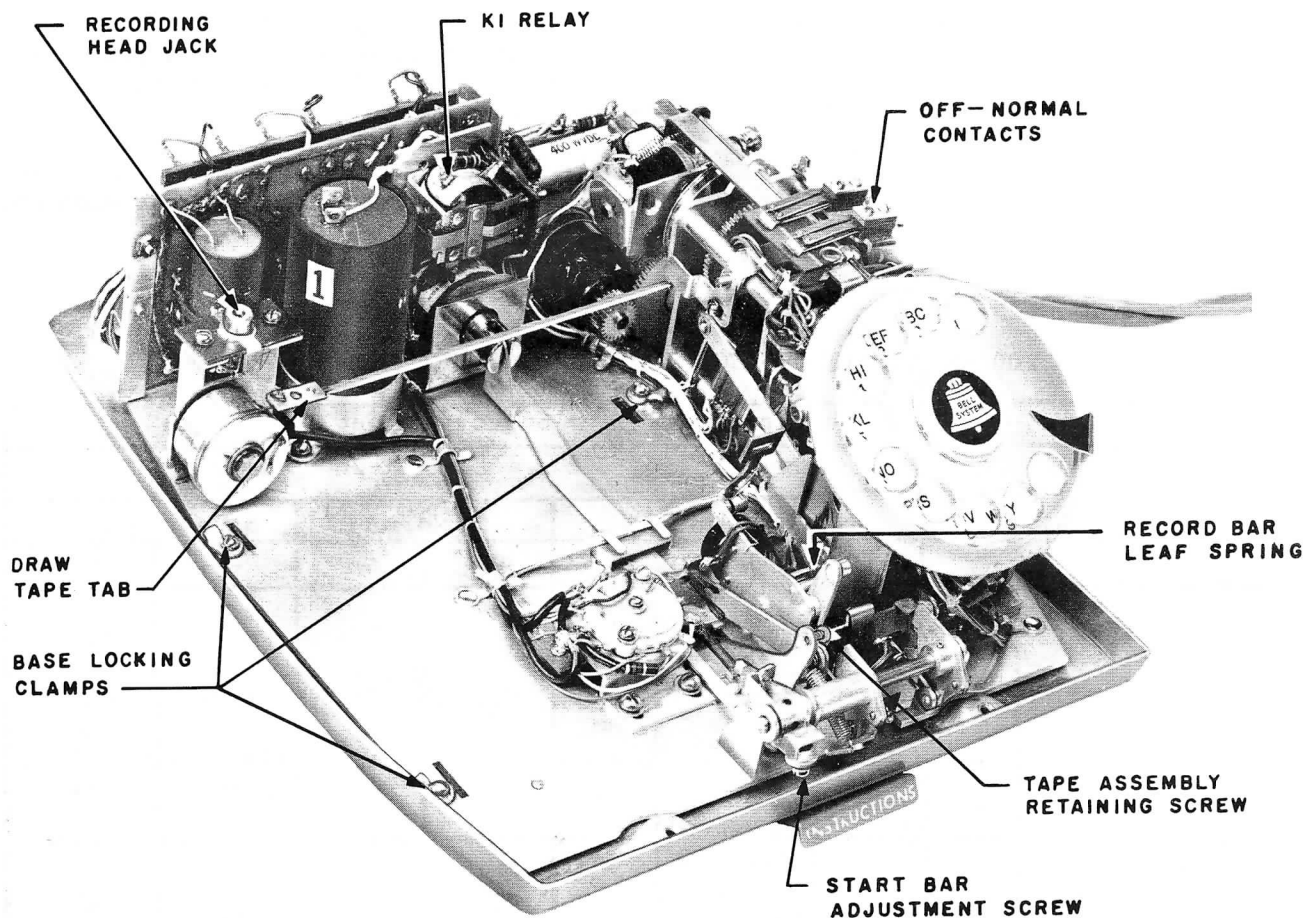
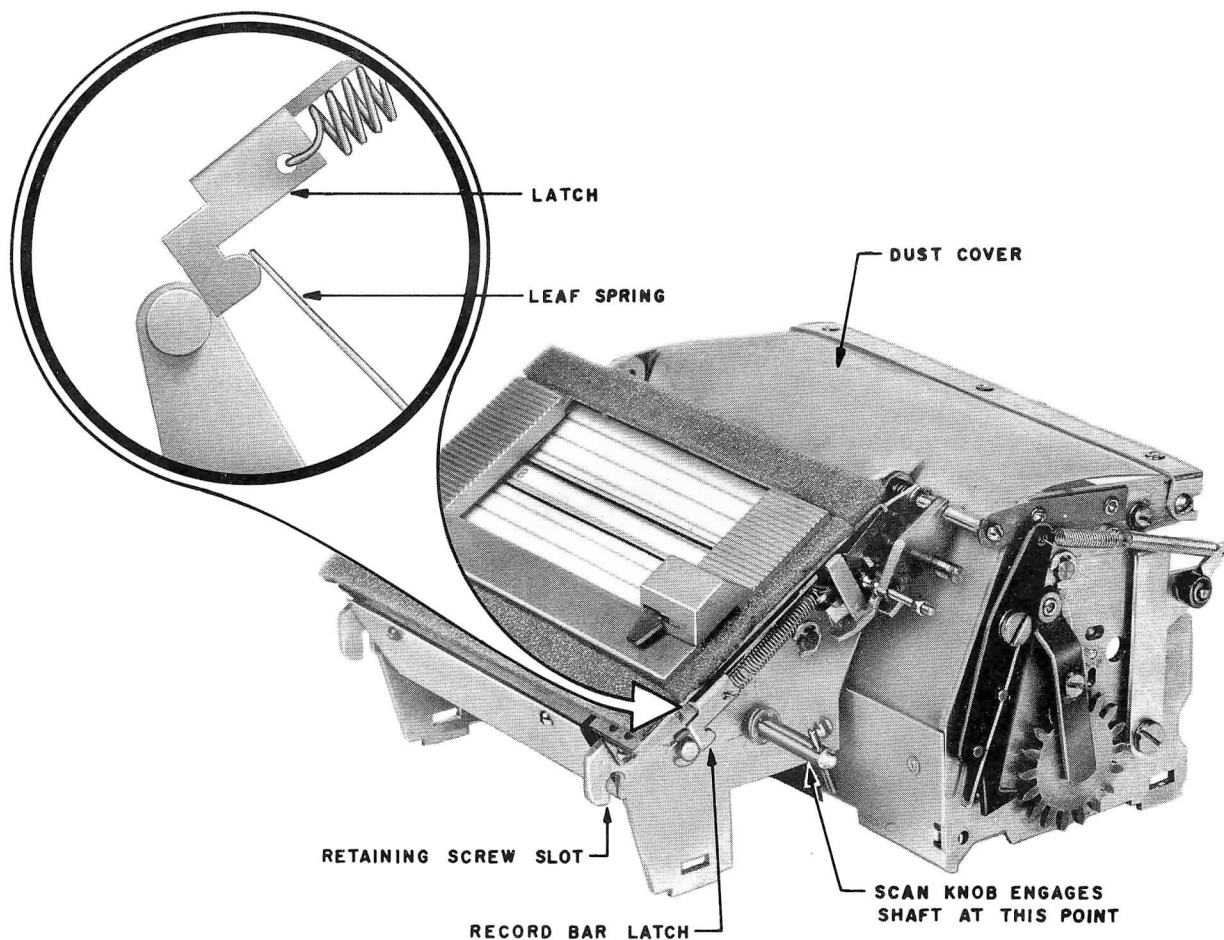

Fig. 7 - KS-16844 Rapidial, List 6 Tape Assembly Removed (Front View)
Fig. 9 - List 6 Tape Assembly, Front View
- Burnish K1 relay contacts (Fig. 7 and 8).
- (2) Release three base-locking clamps by turning screws 1/4 turn in counter-clockwise direction (Fig. 7, 8, and 10).
- (3) Loosen retaining screw on front right side of tape assembly (Fig. 7, 8, and 9).
(4) Grasp tape assembly with right hand on either side of writing tape window frame. Lift slowly, carefully disengaging recording head carriage pin from hole in draw tape tab (Fig. 7, 8, and 10).
(1) Make certain start bar mechanism is not operated. If operated, plug in power cord momentarily until Rapidial has recycled.
(2) Grasp tape assembly as explained in 6.04. Carefully lower tape assembly into position, making certain recording head carriage pin properly engages hole in draw tape tab (Fig. 7, 8, and 10).
(3) Lift front of tape assembly sufficiently to allow record bar leaf spring to clear record bar latch. Hold spring up with 3-1/2 inch screwdriver and lower front of tape assembly into position, allowing record bar leaf spring to rest upon record bar latch (Fig. 7, 8, and 9).
(4) Grasp in right hand and position tape assembly over unit.
(5) Place wiring from motor around the front and left side of the cartridge assembly.
(6) Lower tape assembly onto base, carefully engaging recording head pin in hole in draw tape tab.
- (7) Line up tape assembly so all four lugs fall in base slots.
- (8) Lift front of tape assembly approximately $\frac{3}{4}$ inch and push record bar leaf spring back (with 3- $\frac{1}{2}$ inch screwdriver) about $\frac{1}{2}$ inch.
- (9) Lower tape assembly, allowing spring to rest on latch (Fig. 9).
- (10) Be sure all lugs on tape assembly are engaged with base slots.
- (11) Secure base locking clamps (Fig. 7).
- (12) Secure tape assembly retaining screw.